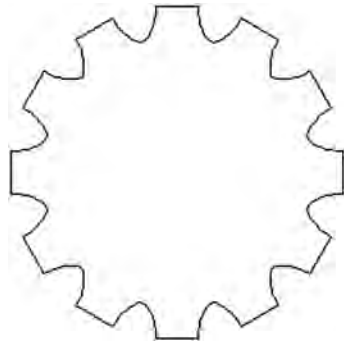

FIGURE 24.29
- Step 1.** Draw a circle and one tooth, similar to what is found on a gear. Then, array it 12 times around the circle. Finally, do a little bit of cleanup trimming and edit the entire structure. This is your basic profile, as seen in Figure 24.29. You need not draw the exact same thing; something close is just fine.